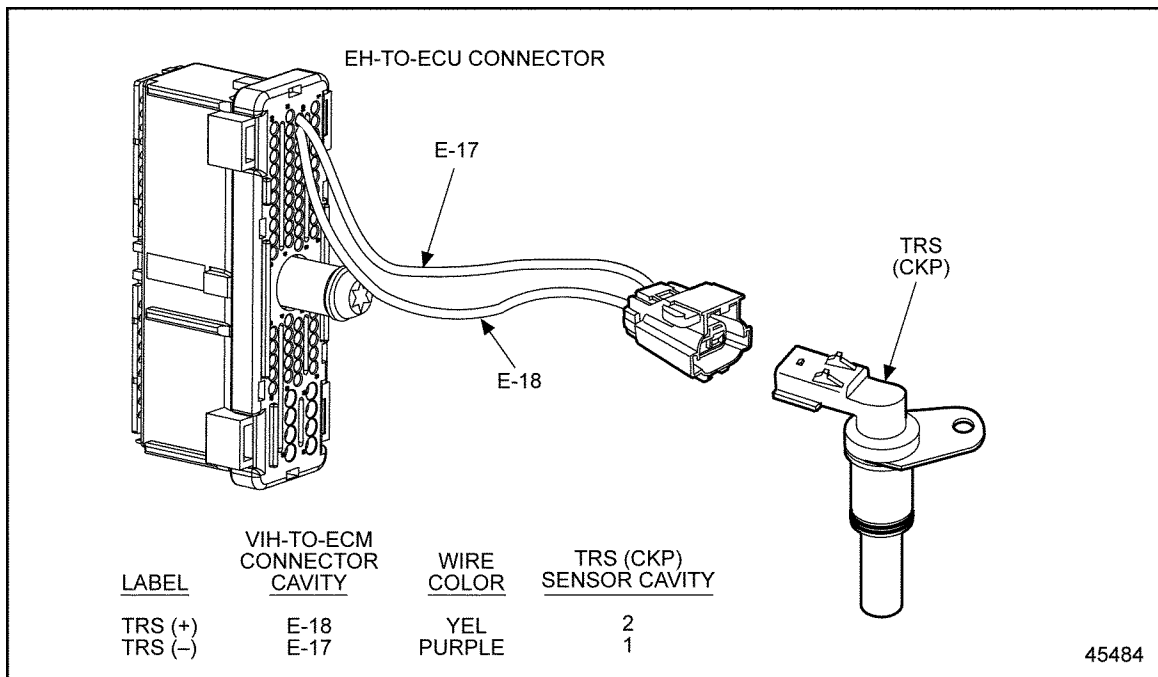

Figure 43-4 Engine Harness Connector to Crankshaft Position Sensor
1. Measure resistance of TRS/CKP across sensor connector pins 1 and 2. See Figure 43-4.
4. Check terminals at the TRS/CKP (both the TRS/CKP and harness side) for damaged, bent, corroded, and unseated pins or sockets. See Figure 43-4